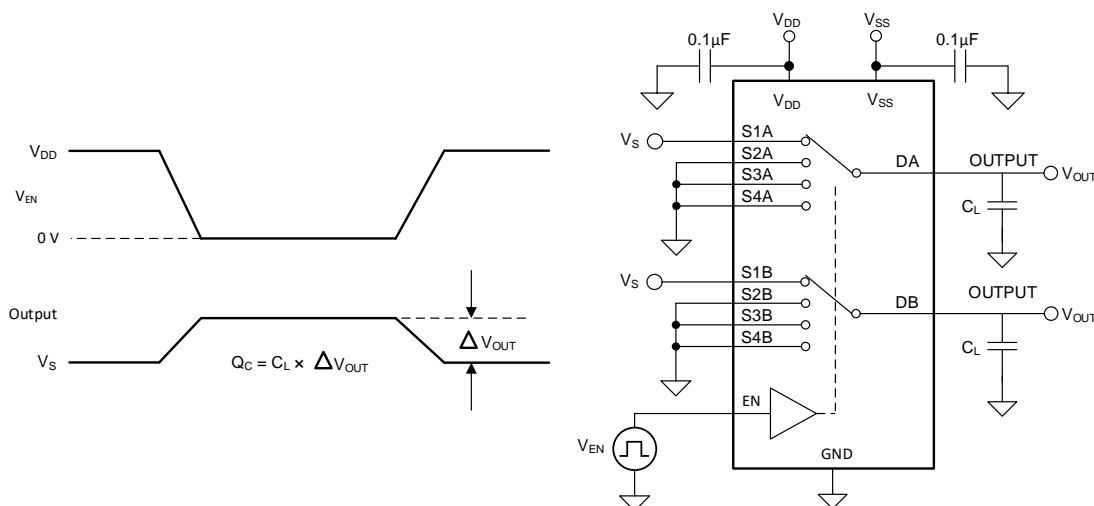

图 24. Charge-Injection Measurement Setup
The TMUX1109 has a transmission-gate topology. Any mismatch in capacitance between the NMOS and PMOS transistors results in a charge injected into the drain or source during the falling or rising edge of the gate signal. The amount of charge injected into the source or drain of the device is known as charge injection, and is denoted by the symbol Q_C . 图 24 shows the setup used to measure charge injection from source (Sx) to drain (D).